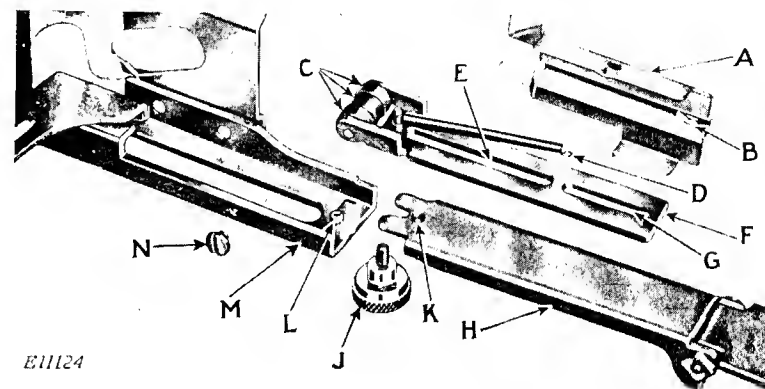
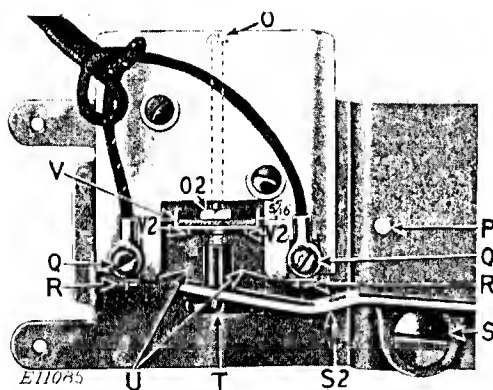
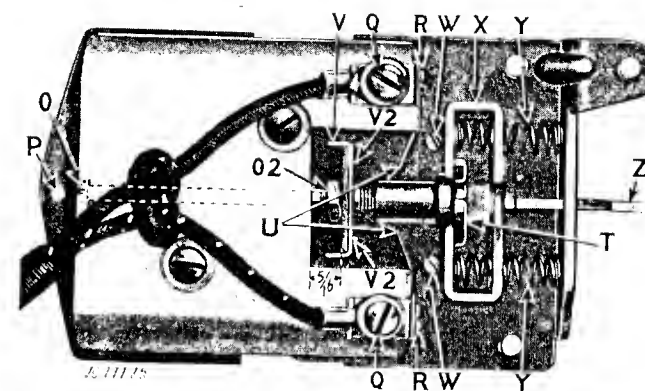

FIG. 9. KNEE LEVER SLIDE PARTS DISASSEMBLED
FIG. 10. KNEE CONTROLLER WITH COVER REMOVED
FIG. 11. TREADLE CONTROLLER WITH COVER REMOVED
The following instructions cover the Knee Controller, Fig. 10 (used in connection with Cabinet 40) and the Treadle Controller Fig. 11 (used in connection with Cabinet 404 and Stand 46913).
Knee Controller. To inspect and clean knee controller mechanism, remove complete knee controller from cabinet as instructed on pages 5 and 6. Take out thumb screw (J, Fig. 9) and remove
knee lever (H, Fig. 9) from the slide housing (M, Fig. 9). Take out screw (N, Fig. 9) and remove the slide cover (A, Fig. 9) after disconnecting spring (D, Fig. 9) from hook (B) on the inside of cover (A). Inspect the slide rollers (C) making sure that they revolve freely. Before reassembling, clean knee lever slide parts and apply a small quantity of Singer Motor Lubricant to the slide (F) at all points where it comes in contact with slide housing (M), also on the edges of the slot (G) which is engaged by stop pin (L), and on the surfaces of, and between, the three slide rollers (C). Also apply a small quantity between fulcrum lever (S2, Fig. 10) and the controller frame, and between screw head (S, Fig. 10) and fulcrum lever (S2, Fig. 10).
To Inspect Carbon Controller Unit of Knee Controller and of Treadle Controller, remove screw at (P, Figs. 10 and 11) to remove the controller cover, and inspect the wires and connections at (Q, Figs. 10 and 11).
screws (W)—to stop the motor, the face of the bakelite strip, between the cross slide (V) and nut (O2), should be about $\frac{5}{16}$ inch from the flat face of the porcelain as shown in Figs. 10 and 11. If the distance is not $\frac{5}{16}$ inch, release insulating nut (T, Figs. 10 and 11) from its seat by pushing on the end of pull rod at (O), and turn nut (T) until correct adjustment is obtained.
Do not disturb the adjustment of nut (O2, Figs. 10 and 11).
Knee Controller. See that the knee lever (H, Fig. 9) is fully released, with the stop pin (L, Fig. 9) at the extreme lower end of slot (G, Fig. 9) of slide (F, Fig. 9), and see that insulating nut (T, Fig. 10) is properly seated in end of lever (S2, Fig. 10).
Treadle Controller. See that the yoke (X, Fig. 11) is at the stop position against the two screws (W, Fig. 11), and see that insulating nut (T, Fig. 11) is properly seated in yoke (X).
Replace controller cover and tighten screw at (P, Figs. 10 and 11).
This lever is adjustable for length to the limits of slot (E, Fig. 9) of slide (F). Loosen thumb screw (J, Fig. 9) and slide knee lever (H, Fig. 9) inward or outward in slide housing (M, Fig. 9) for length to suit operator, then tighten thumb screw (J).